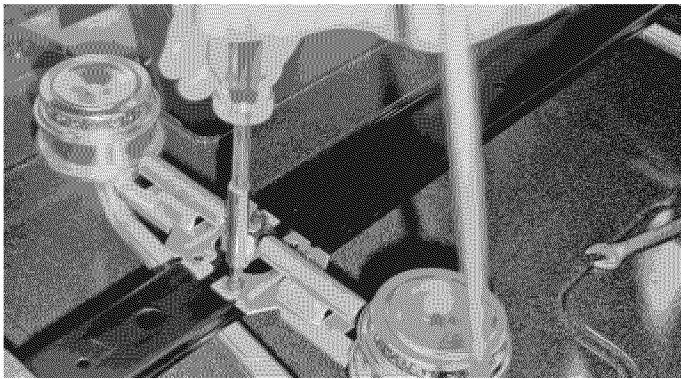

Fig. 2
- With the cooktop still in the raised position, remove the 4 Venturi surface burners using a 1/4" nutdriver as illustrated (See Fig. 2).
- Replace the 4 Venturi surface burners and secure in place using a 1/4" nutdriver (See Fig. 2).